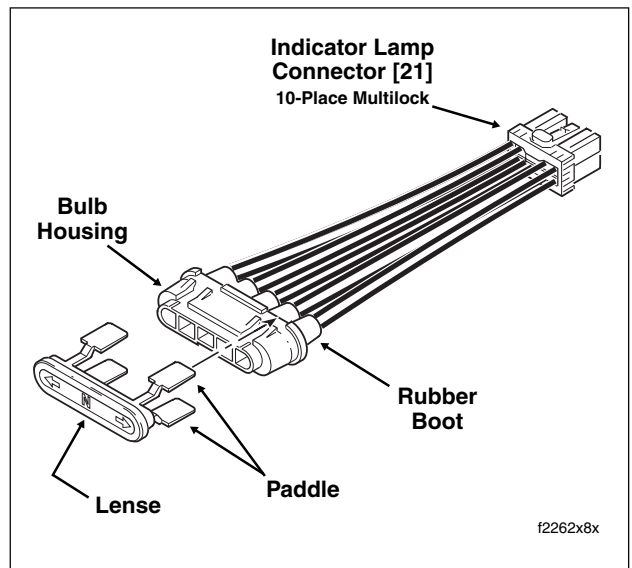

Figure 8-115. Indicator Lamp Assembly
4. Release four paddles to free indicator bulb housing from lense assembly. See Figure 8-115. Remove lense assembly from inner fairing (FLHT/C/U) or bezel (FLTR), if damaged.